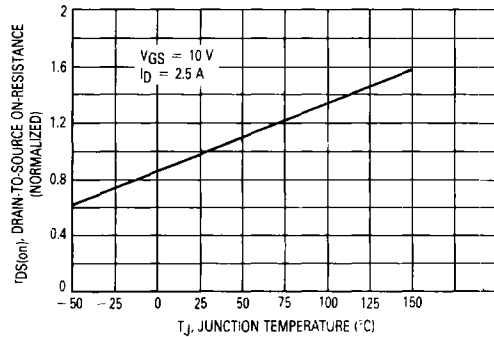

Figure 6. On-Resistance Variation With Temperature
- $I_D(25^\circ C)$  = the dc drain current at  $T_C = 25^\circ C$  from Figure 6.